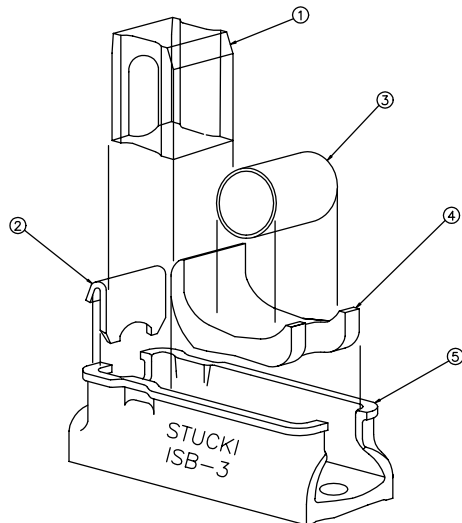

Figure 1. ISB-3 Components
VI. INSTALLATION OF COMPONENTS INTO CAGE (see Figure 1)
1. Insert the end closure ② into place.
2. Set the ISB cradle in place with the 3" roller as shown in Figures 1 and 2.